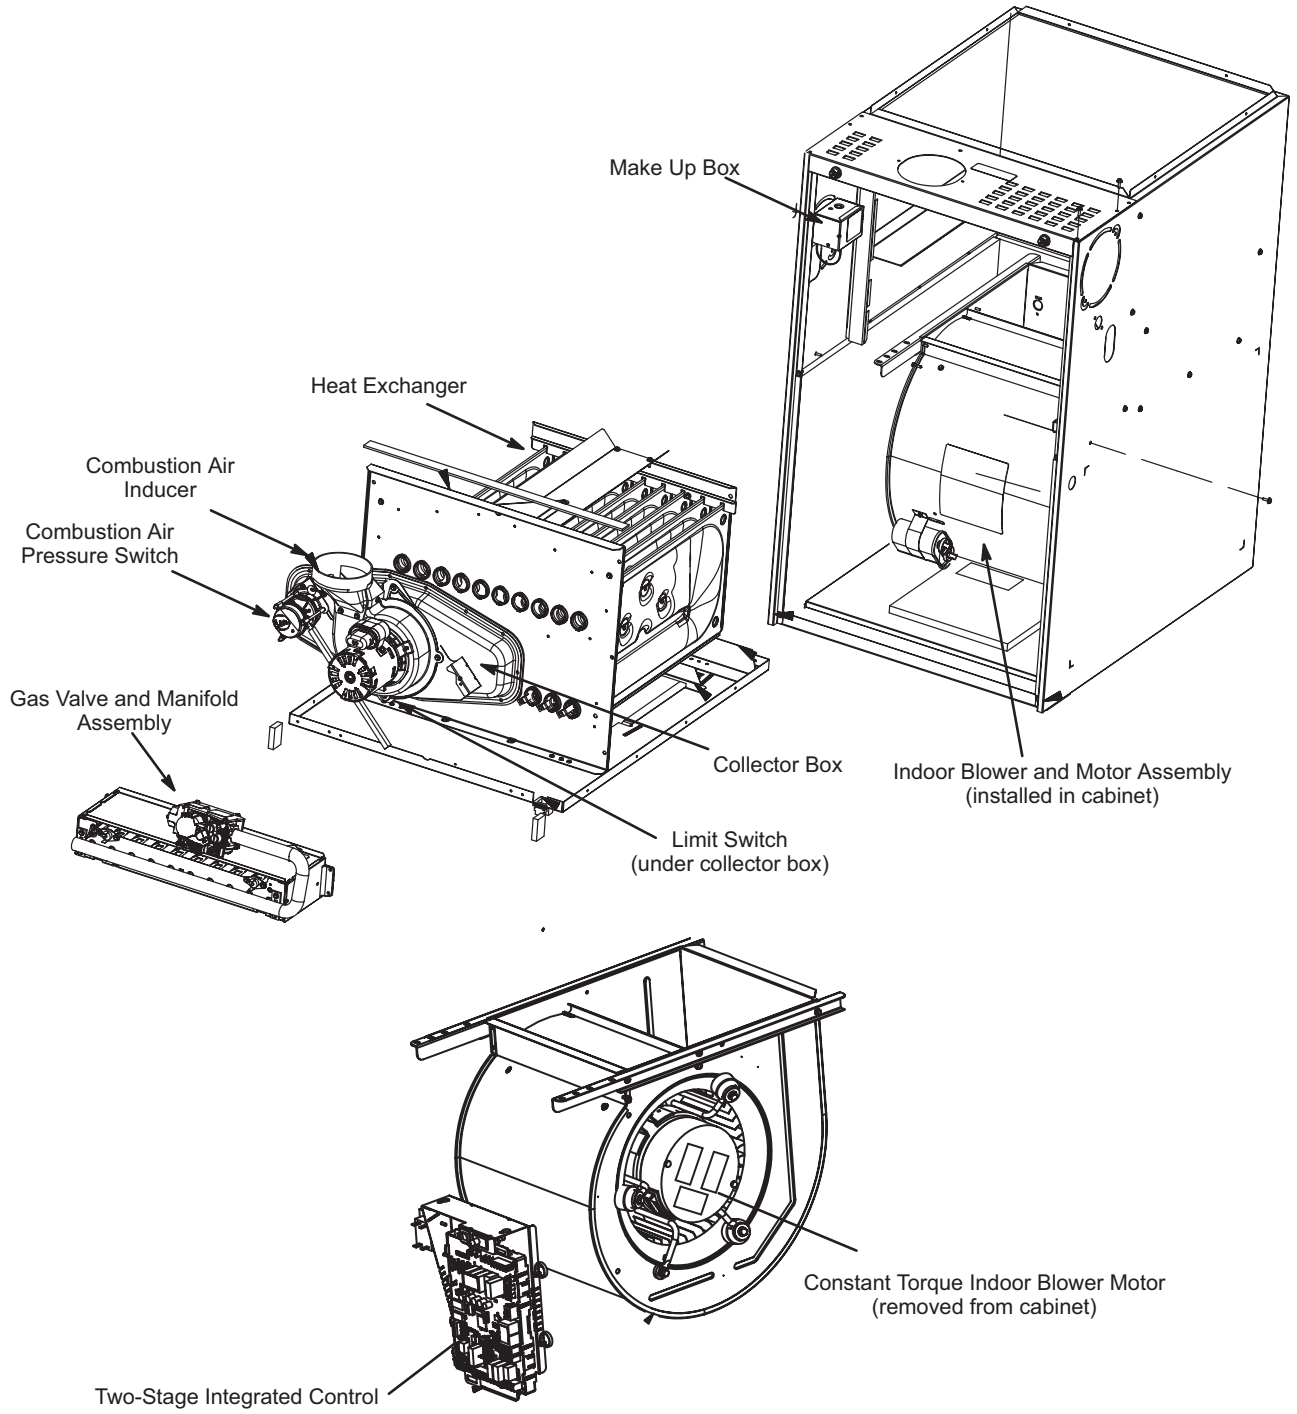
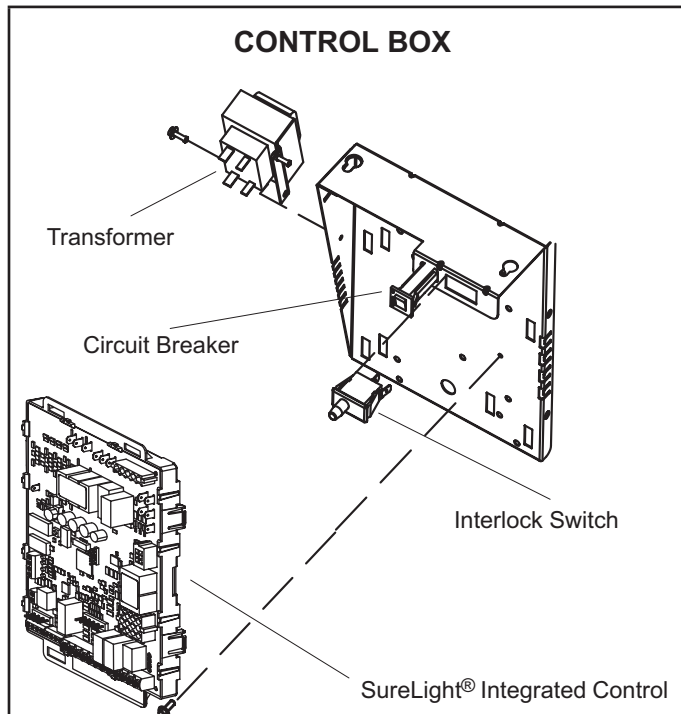

FIGURE 1
FIGURE 2
EL280UHE(X) unit components are shown in FIGURE 1. The gas valve, combustion air inducer and burners can be accessed by removing the access panel. Electrical components are in the control box (FIGURE 2) found in the blower section.